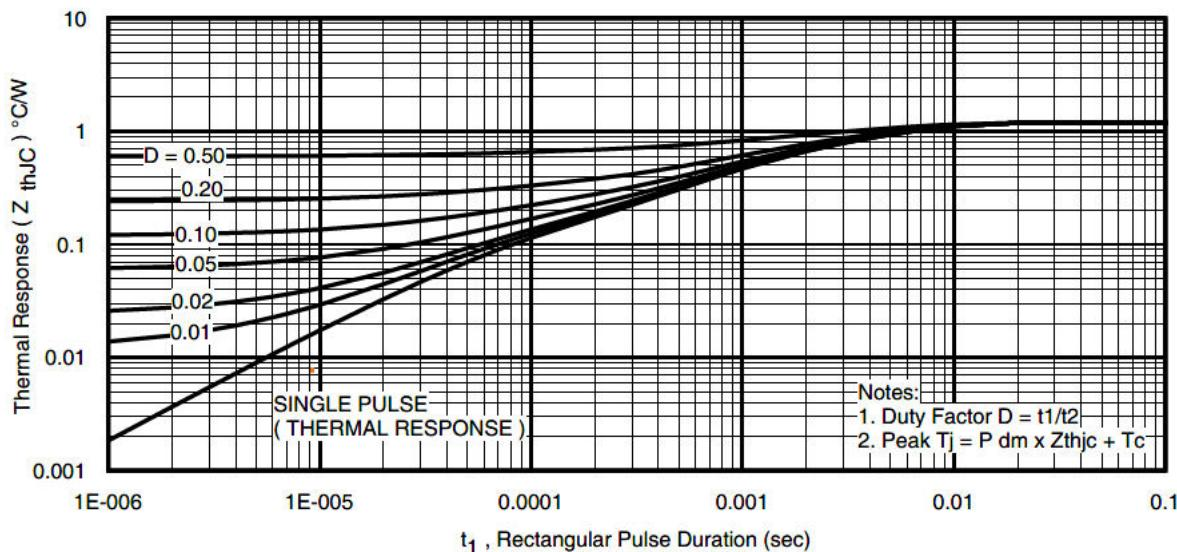

Fig 14. Maximum Effective Transient Thermal Impedance, Junction-to-
7. ΔT = Allowable rise in junction temperature, not to exceed T_{jmax} (assumed as 25°C in Figure 14, 15).